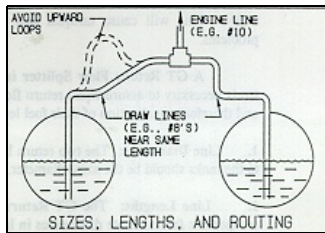

Figure 1: Line Routing
3. **Line Routing:** The two tank draw lines should rise steadily (or at least be level). Avoid forming upward loops that could trap an air bubble, or downward loops that could trap water (the line from the tee to the engine may be routed in any convenient way). (See Figure 1.)